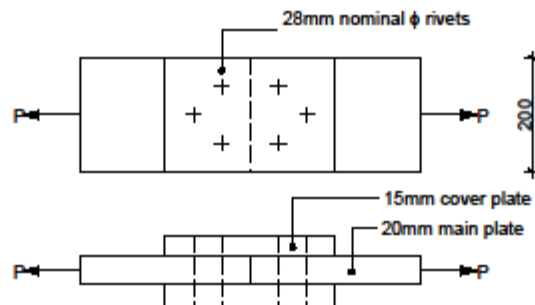

Fig. 5
- b) A 200 X 20mm steel strap is spliced as shown in figure 5. Determine: